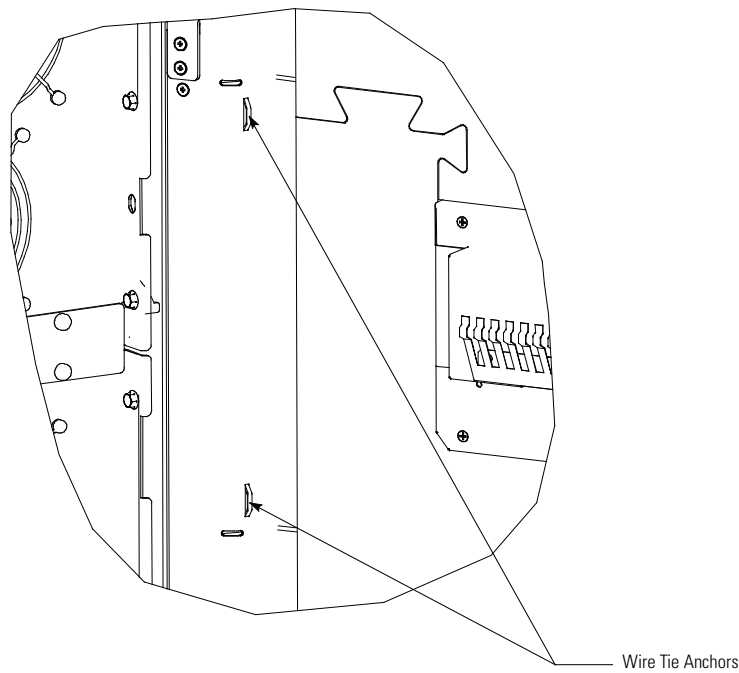

Figure 4-19. Wire Tie Anchors
12. Secure the wiring to the wire tie anchors provided (see Figure 4-19) using Zip ties.
10. Secure the wiring to the wire tie anchors provided (see Figure 4-19) using Zip ties.